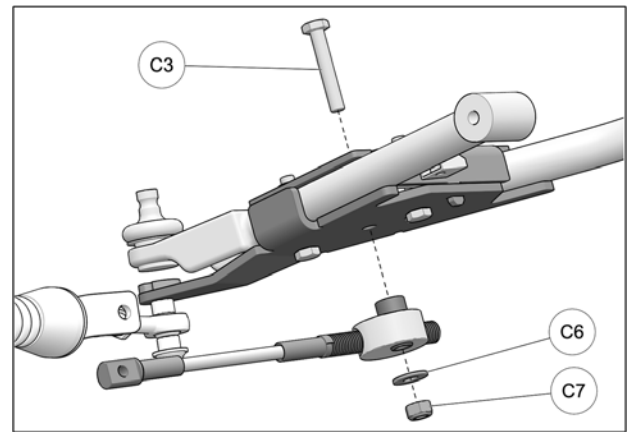

Fig. 19
12. Pass bolt (C3) down through opening in bracket cover and insert it in the anchor bracket's central hole. Slip steering limiter cable assembly over bolt (C3) and use washer (C6) and nut (C7) to secure assembly to anchor bracket. Tighten nut to 50 N•m [37 lb•ft]. Refer to Fig. 19